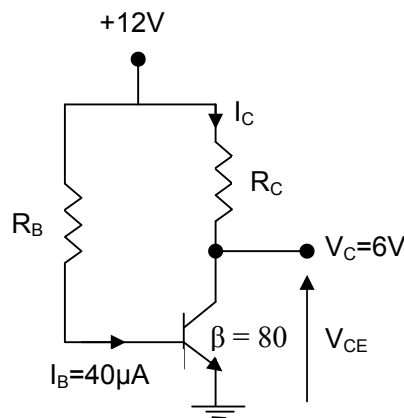

Figure 8
- (c) (i) Given the information appearing in **Figure 8**, determine I_C , R_C , R_B and V_{CE} . Consider germanium based BJT. (11 marks)